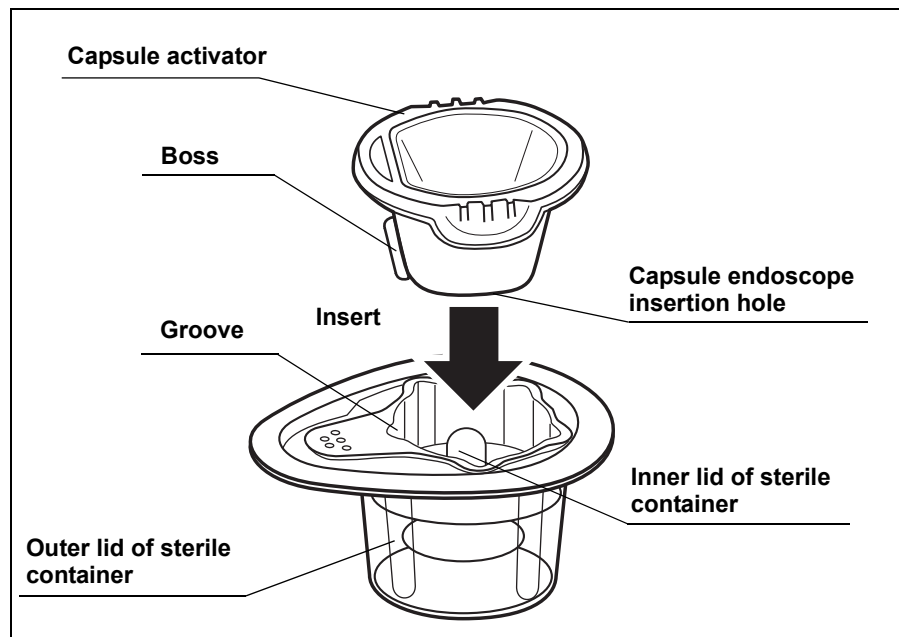

Figure 5.44
2. Hold the sterile container, taking care not to squeeze it. Adjust the direction of the boss of the capsule activator to the closest groove to the handle of the inner lid of sterile container. Then insert the capsule activator straight along with the groove, the capsule endoscope turn ON (see Figure 5.44). When the capsule endoscope is turned ON, the LED illuminates.